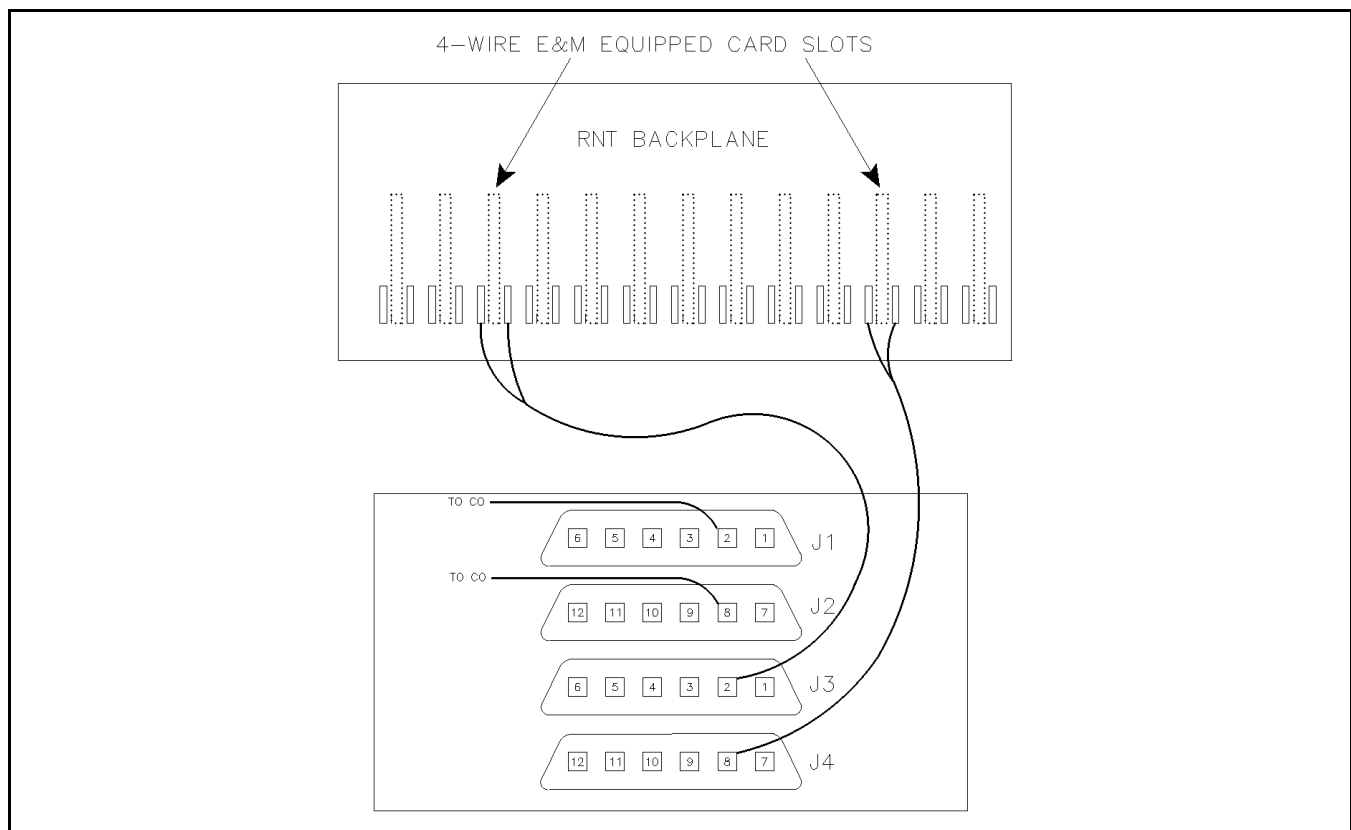

Figure 14-26 NETWORK LINK (SWITCH RACK BACK VIEW)
1. **Method 1:** An RJ-11 harmonica to 50-pin connector J1 or J2. On the RJ-11 harmonica the slots 1-6 correspond to the RJ-11 jacks going from right to left as viewed from the back of the Termset rack (see Figure 14-26).